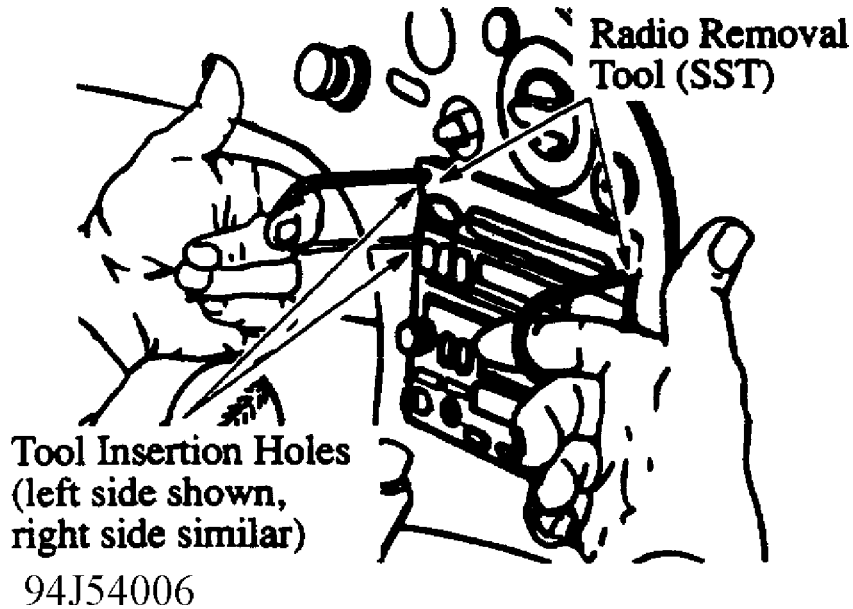

Fig. 4: CD Player Removal
6. Push the stereo removal tool, SST (Part No. 49 UN01 050), into the holes on the CD player until it locks firmly. See Fig. 4.